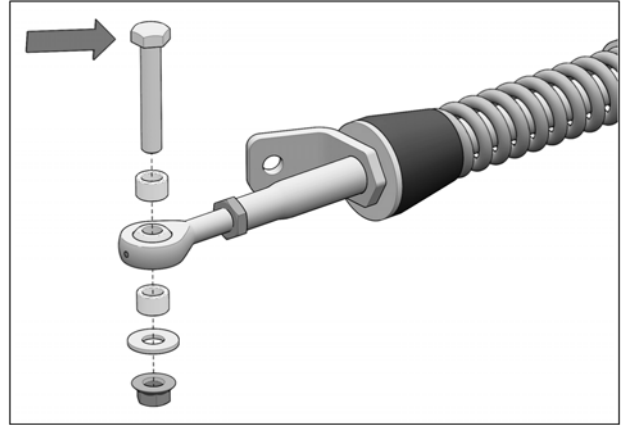

Fig. 15
5. Remove bolts, nuts, washers and bushings from front stabilizing rod ends as shown in Fig. 15